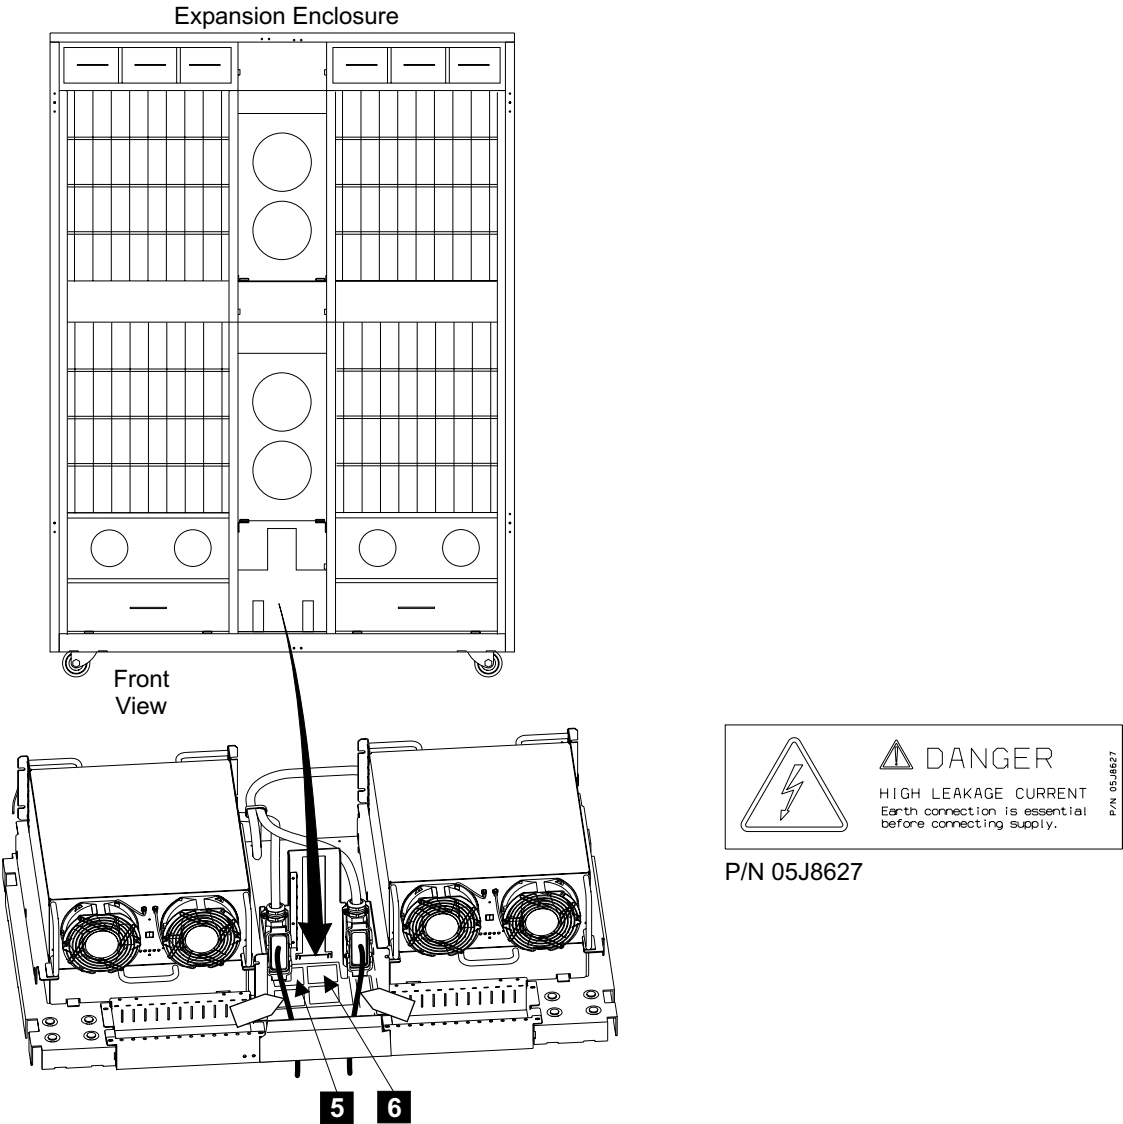

Figure 82. 2105 Expansion Enclosure, Danger Leakage Current Safety Labels (S008372q)
- Ensure that the danger leakage current safety labels are installed on the front tailgate areas of the 2105 Expansion Enclosure. See Figure 82 on page 201.